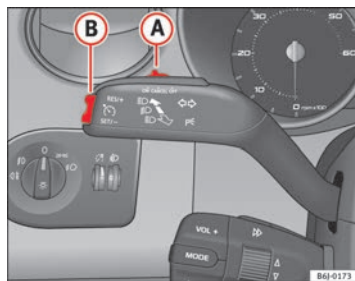

Fig. 106 Indicator and main beam headlight lever: switch and rocker switch for the cruise control
- Press the upper part **RES** of the rocker switch ⇒ fig. 106 **B** to increase the speed. The vehicle will continue to accelerate as long as you keep the rocker switch pressed. When you release the switch, the new speed is stored.
Control of the set speed is switched off if you reduce speed by depressing the brake pedal. Reactivate the control by pressing once on the upper part of the rocker switch **RES+** ⇒ page 144, fig. 106 **B**.